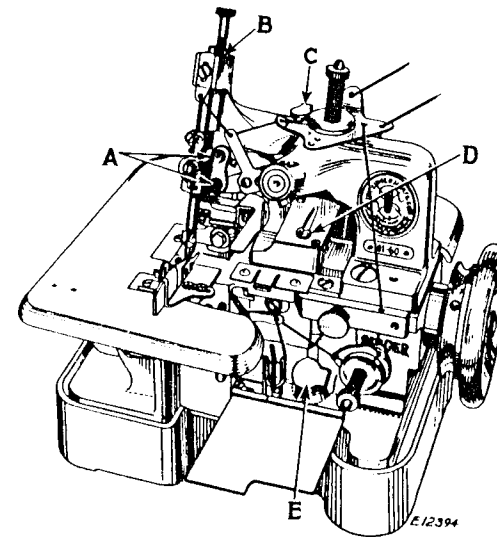
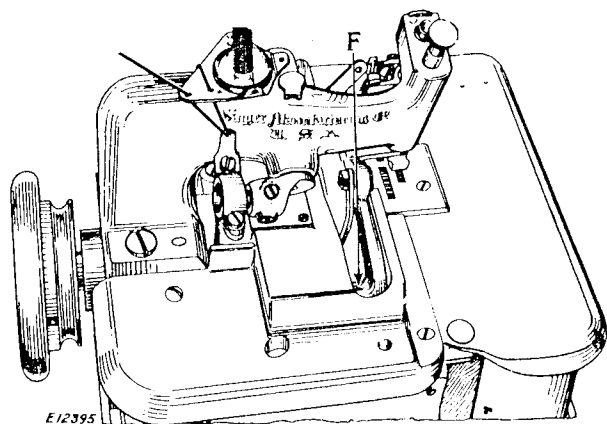

Fig. 4. Front View, Showing Oiling Points.
Fig. 5. Rear View, Showing Oiling Point
**Before Starting the Machine:** Apply oil to the hole (D, Fig.4) and oil cup (E, Fig.4) until the reservoirs are full. Fill the oil cup (C) at the top of the machine and thoroughly saturate the wick through the hole (B) in the casting near the top of the needle bar. Then oil the needle bar link connection (A) at the front of the machine. Also apply oil to the presser lever bearings (F, Fig.5) at the back of the machine.